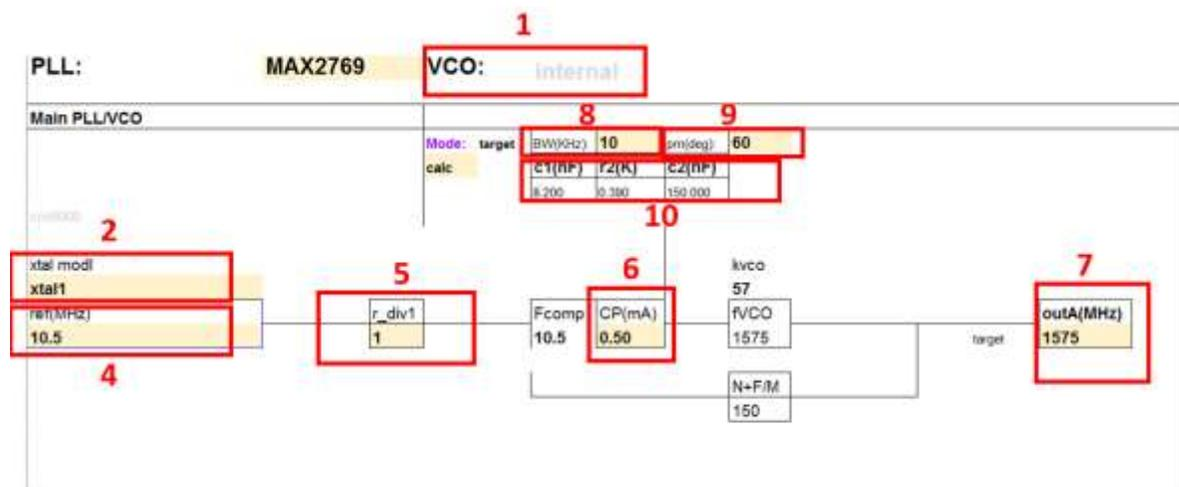

Figure 5. Loop filter spreadsheet calculator.
| Figure 5. Loop filter spreadsheet calculator.....                  | 6 |
4. The reference input frequency can be entered under the cell ref(MHz), as shown in Figure 5. It ranges from 8MHz to 32MHz.